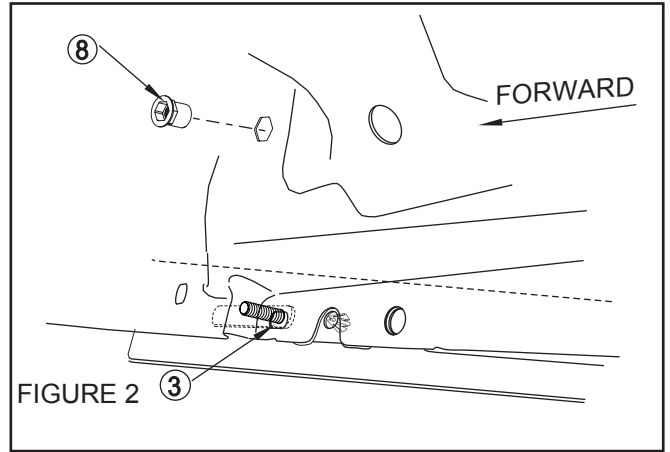

FIGURE 2
- STEP 2. Insert rivnuts as shown. **SEE FIGURE 2.**